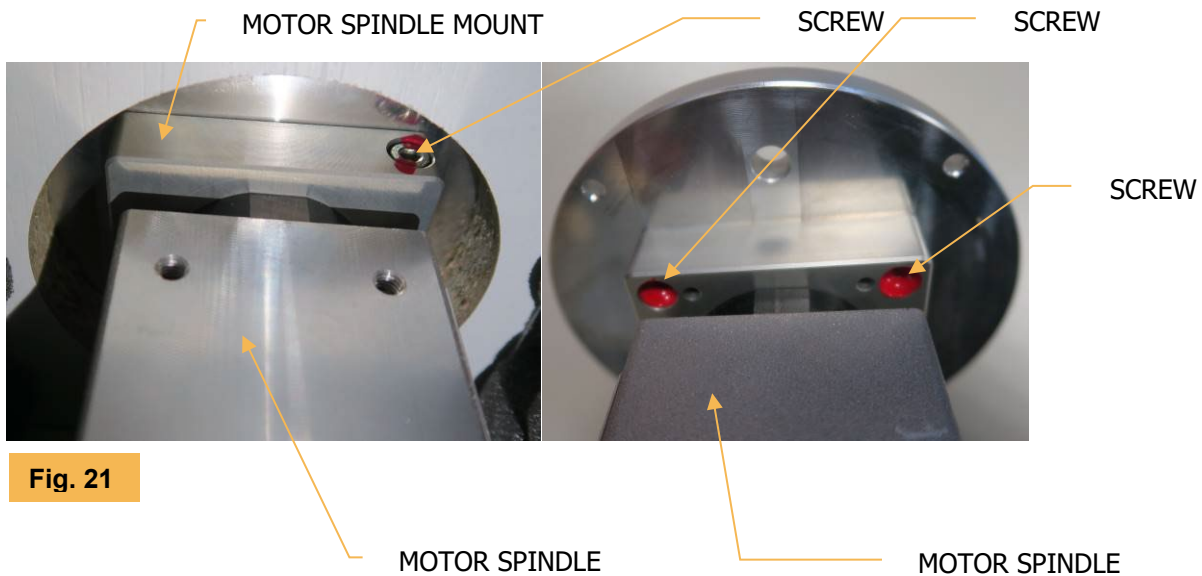

Fig. 21
- DO NOT LOOSEN THE SCREWS ON THE MOTOR SPINDLE MOUNT (Fig.21)